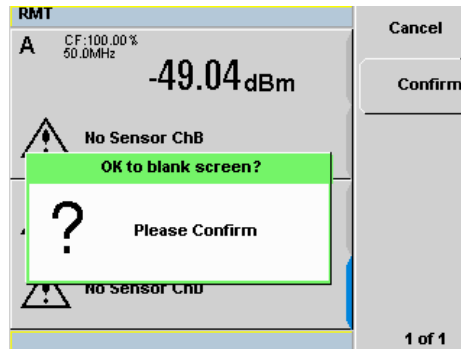

Figure 2-52 Password reconfirmation pop-up
- 8 When the correct password is successfully entered for the second time, you will be prompted for confirmation before the screen is blanked (see Figure 2-52). Press **Confirm**.